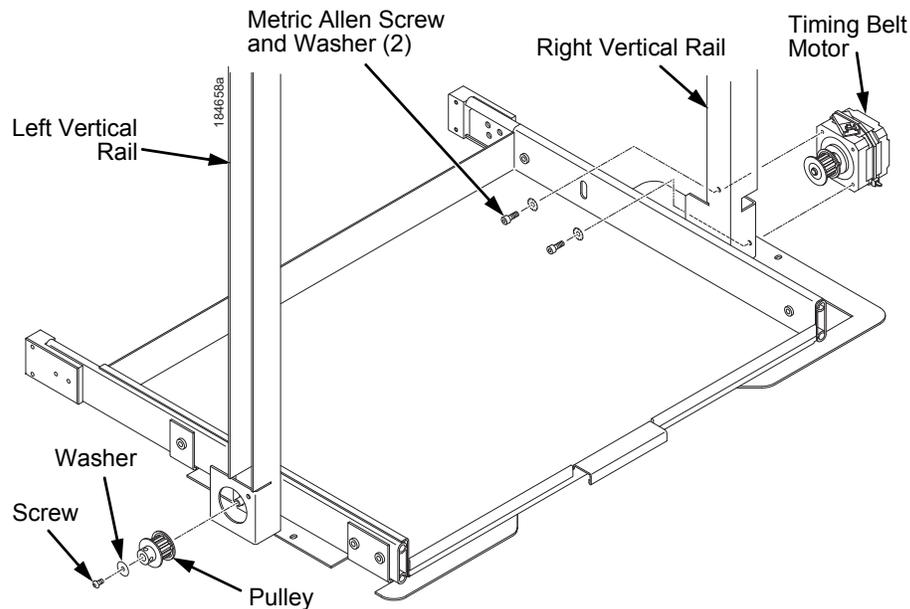

Figure 28. Removing the Timing Belt Pulley and Motor
3. If you are removing the left timing belt, remove the screw and washer from the pulley at the bottom of the left vertical rail, and remove the pulley. (Figure 28.) Go to step 6.
4. If you are removing the right timing belt, remove the two metric Allen screws that secure the timing belt motor to the right vertical rail. (Figure 28.) Go to step 5.